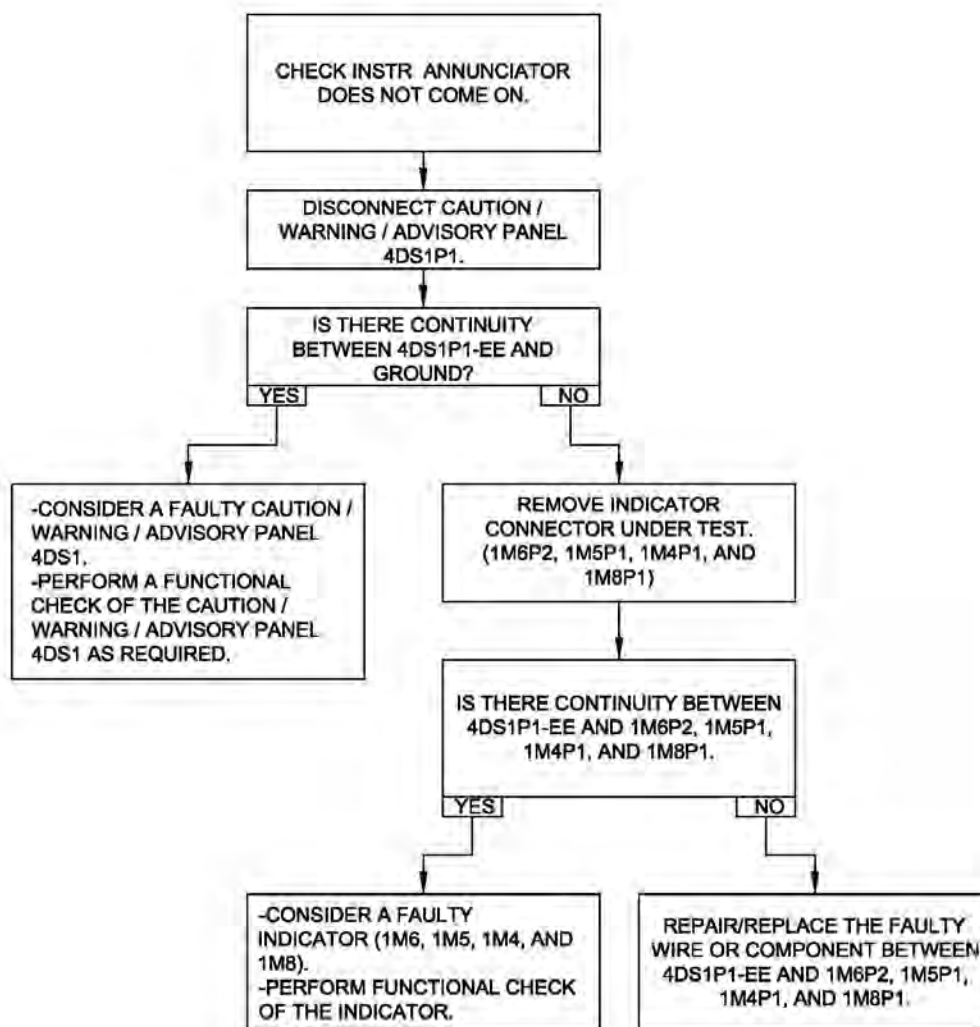

Figure 96-79: Check Instruments (CHECK INSTR) Annunciator Circuit – Trouble No. 2
- If the CHECK INSTR annunciator does not come on, refer to Trouble No. 2 (Figure 96-79).